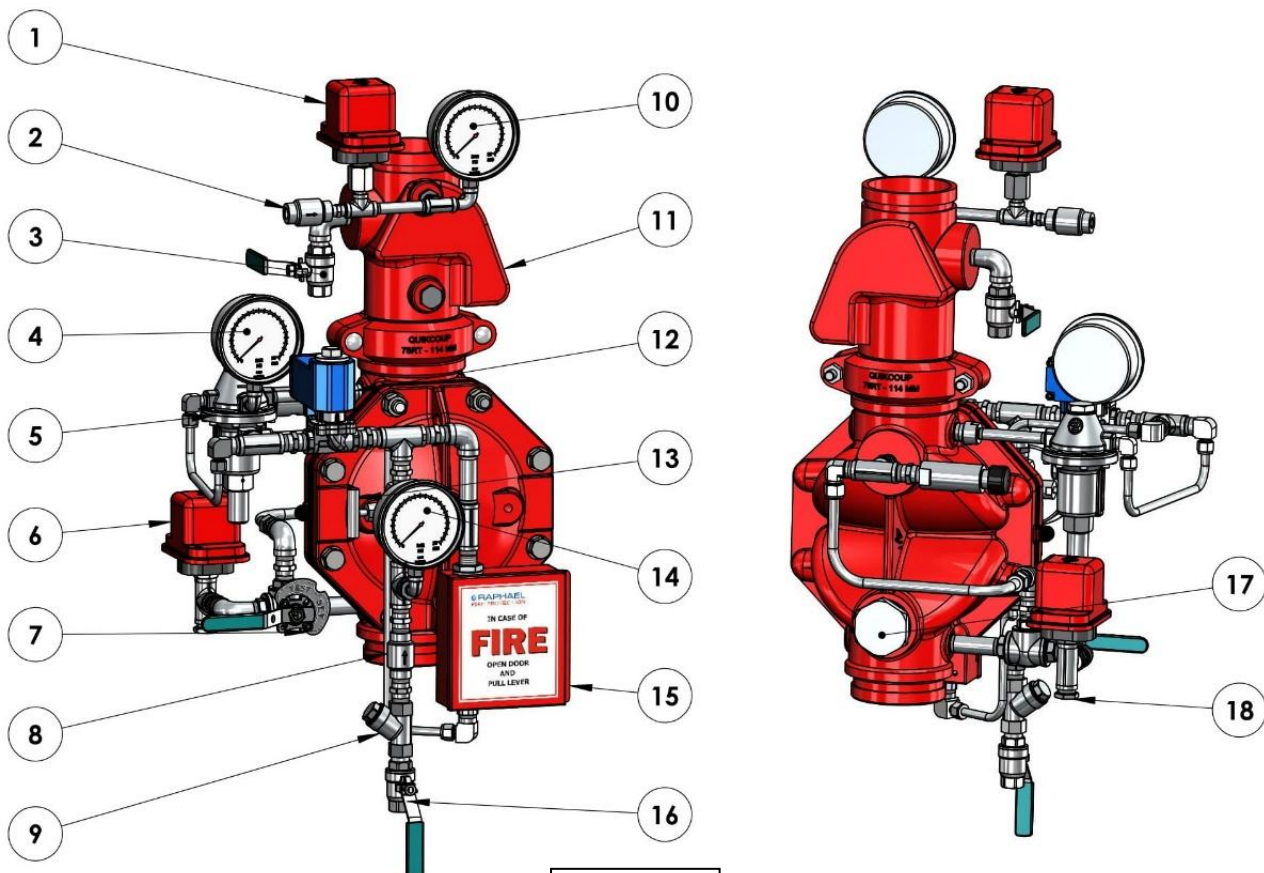

Figure 1
OPERATION (Reference Figure 1)
- (1) – Trim pressure supply connection (1/2" NPT female)
- (18 fig. 1) – Water motor alarm connection (connect 1/2" to 3/4" NPT nipple) - optional
- (7) – Pressure switch connection – optional (1/2" NPT female)
- (11) – riser check valve drain ball valve (1/2" NPT female)
- (13) – air supply check valve (1/4" NPT female)
- (20) – MEU emergence valve drain tube (3/8" tube).